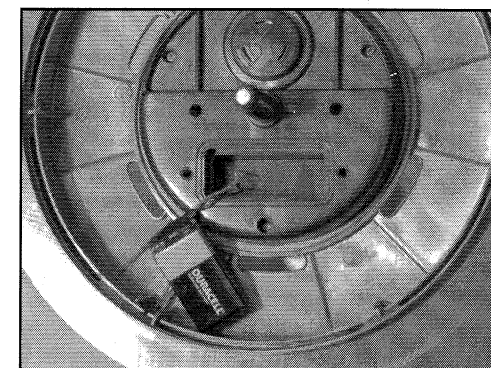

Figure 2 Battery Clip
- 3) Snap a 9-volt alkaline battery on to the battery clip (Figure 2) and carefully insert the 9V battery and clip into the battery compartment.